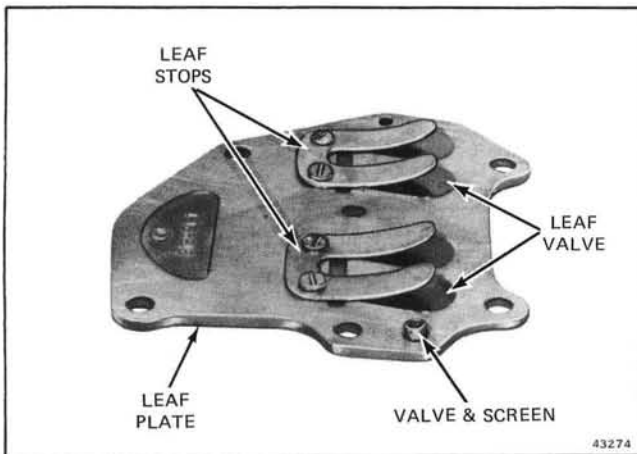

Figure 3-21. Leaf Plate, Valve and Screen Assembly
a. Inspect the leaf plate assembly and disassemble if necessary. The leaf valves must be free from all varnish and gum, and the leaves must lay perfectly flat so they form a perfect seal with the leaf plate base. See Figure 3-21.
a. The recirculating valve ordinarily requires little or no attention; however, when servicing the motor, clean the valve. See Figure 3-21.